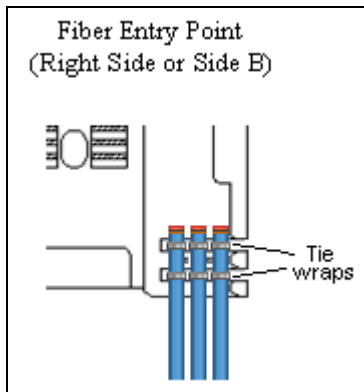

FIGURE 2M1-9. Splice Tray with three 5mm BOF tubes.
- g. Insert the tip of the tie wrap into the tie wrap buckle and clinch the tie wrap down around the 5mm BOF tube and the splice tray until snug. Cut off the excess tie wrap. See FIGURE 2M1-9.